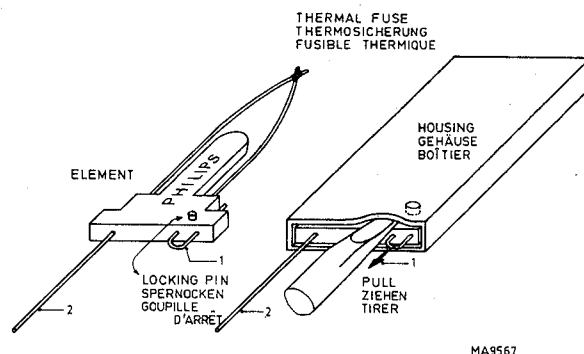

Fig. 2.9. Fuse replacement
- remove the fuse; to this end, bend the housing slightly to the outside so that the locking pin can be disengaged (Fig. 2.9.).